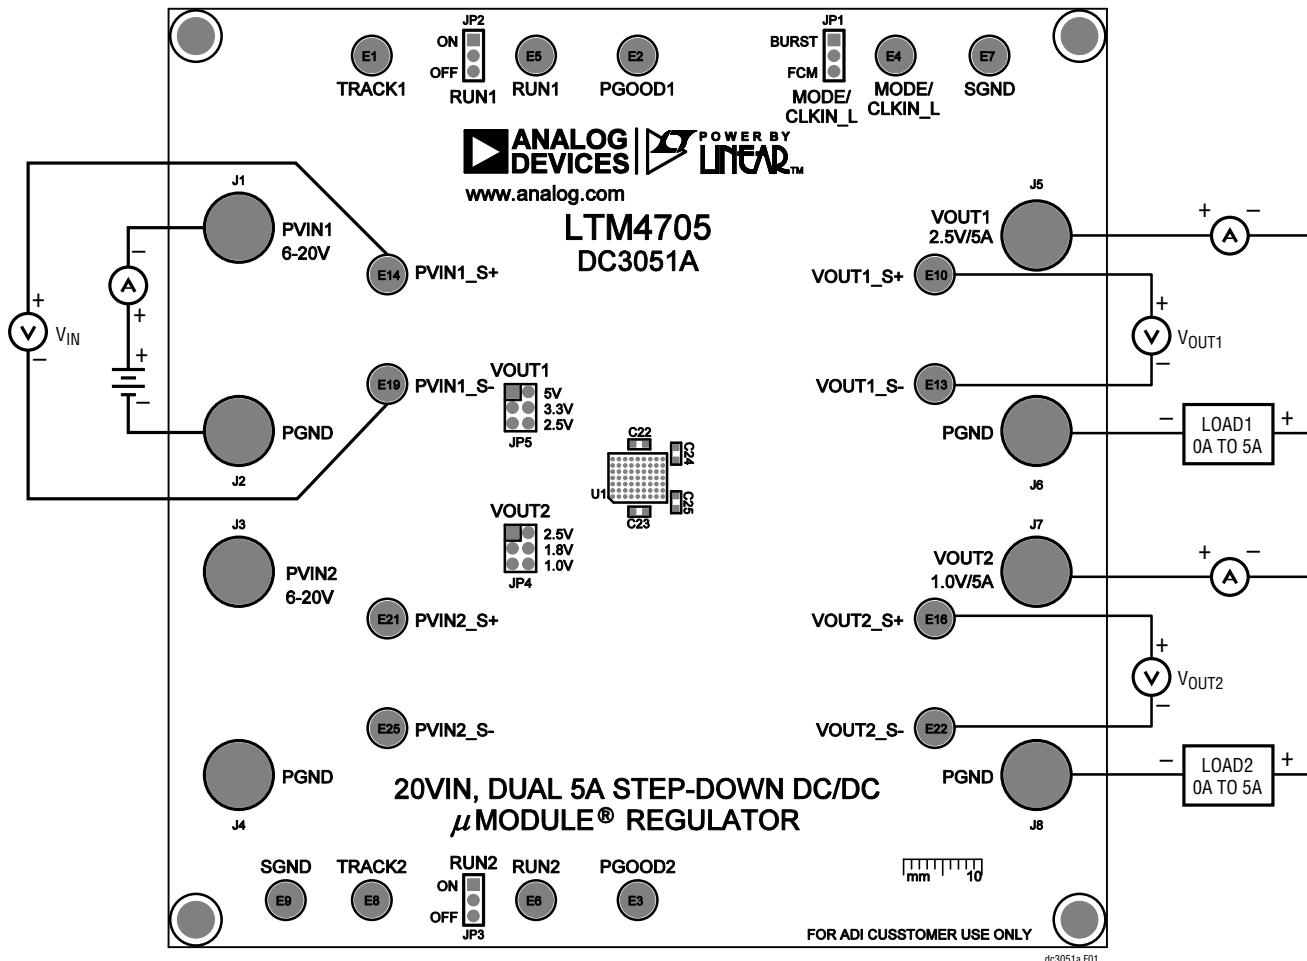

Figure 1. Proper Measurement Equipment Setup
Demonstration circuit 3051A provides an easy way to evaluate the performance of the LTM4705. Please refer to Figure 1 for test setup connections and follow the procedure below.
2. Connect the output loads between  $V_{\text{OUT}}$  and GND (Initial load: no load). Refer to Figure 1.